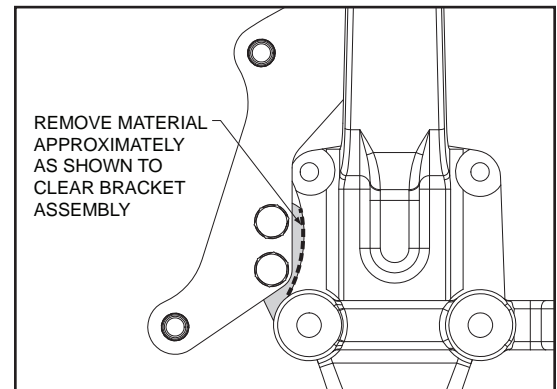

Figure 3. Spindle Modification
- Using the new bracket assembly (1) as a template, if necessary, remove material from the mounting flange of the OEM spindle in the area shown in Figure 3. Remove only the minimum amount of material necessary to clear the new bracket.